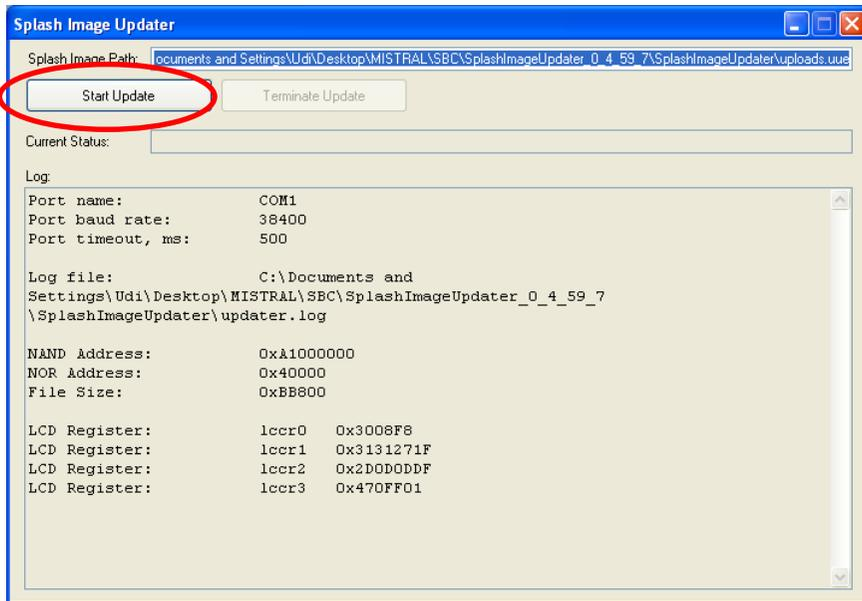

Figure 120
23. Run the "SplashImageUpdater.exe" set-up file. The following window will appear (Figure 120). Press 'Start Update'.